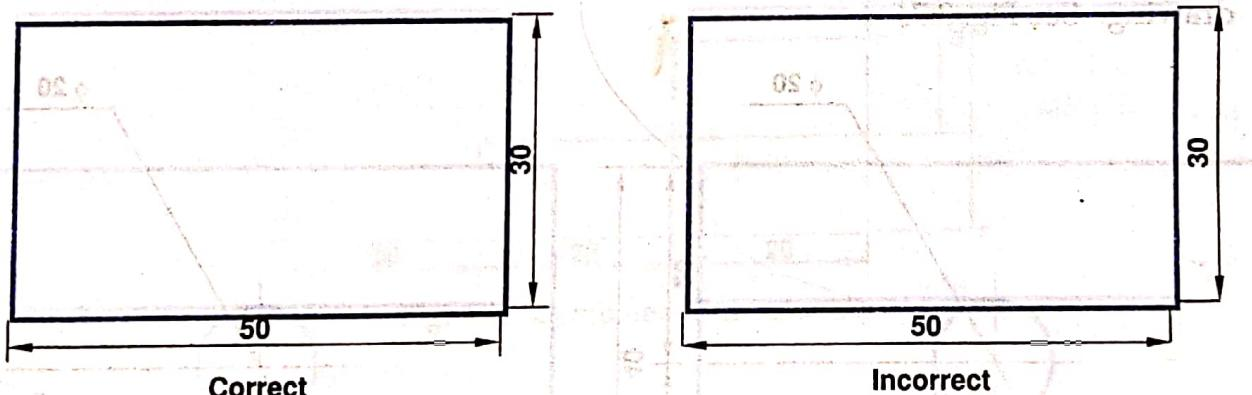

Fig. 3.3 Placing of projection lines
- (i) Projection lines should be drawn from the visible features of the object and extend slightly outside the dimension line as shown in Fig. 3.3.